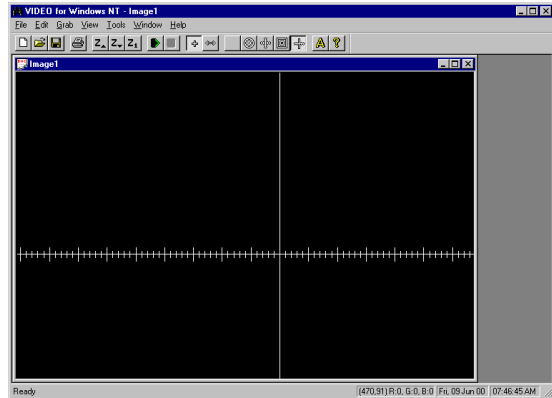

Figure 4-5. Start video frame grabber
3. Then press the green arrow button in the toolbox to start the video frame grabber (Figure 4-5).